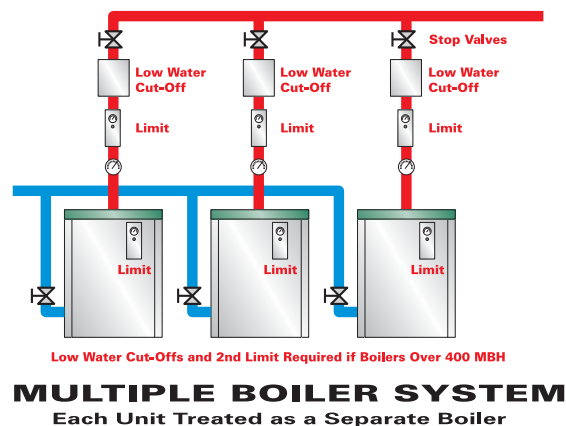

Figure 1.1: Multiple Boiler System
1. On a multiple boiler system, two limit controls are required on each individual boiler and, if the boilers are larger than 400 mbh input, a low water cut-off is also required on each boiler (Figure 1.1).